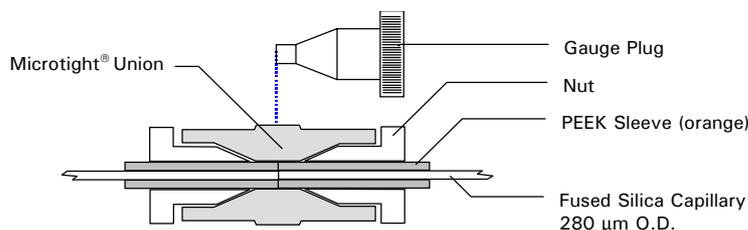

FIGURE 2-5 High Pressure Connection using a Microtight union.
- Put in the capillary using an orange sleeve (P/N 161498) and tighten the nut (FIGURE 2-5).